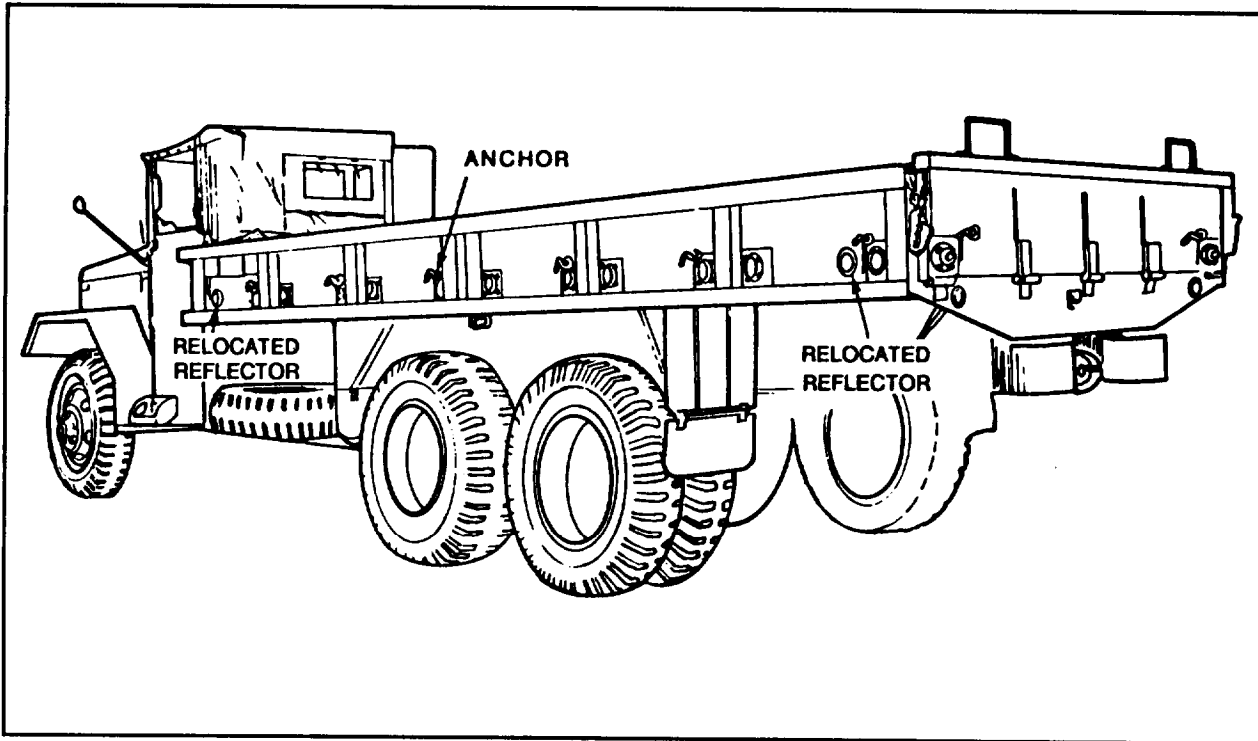
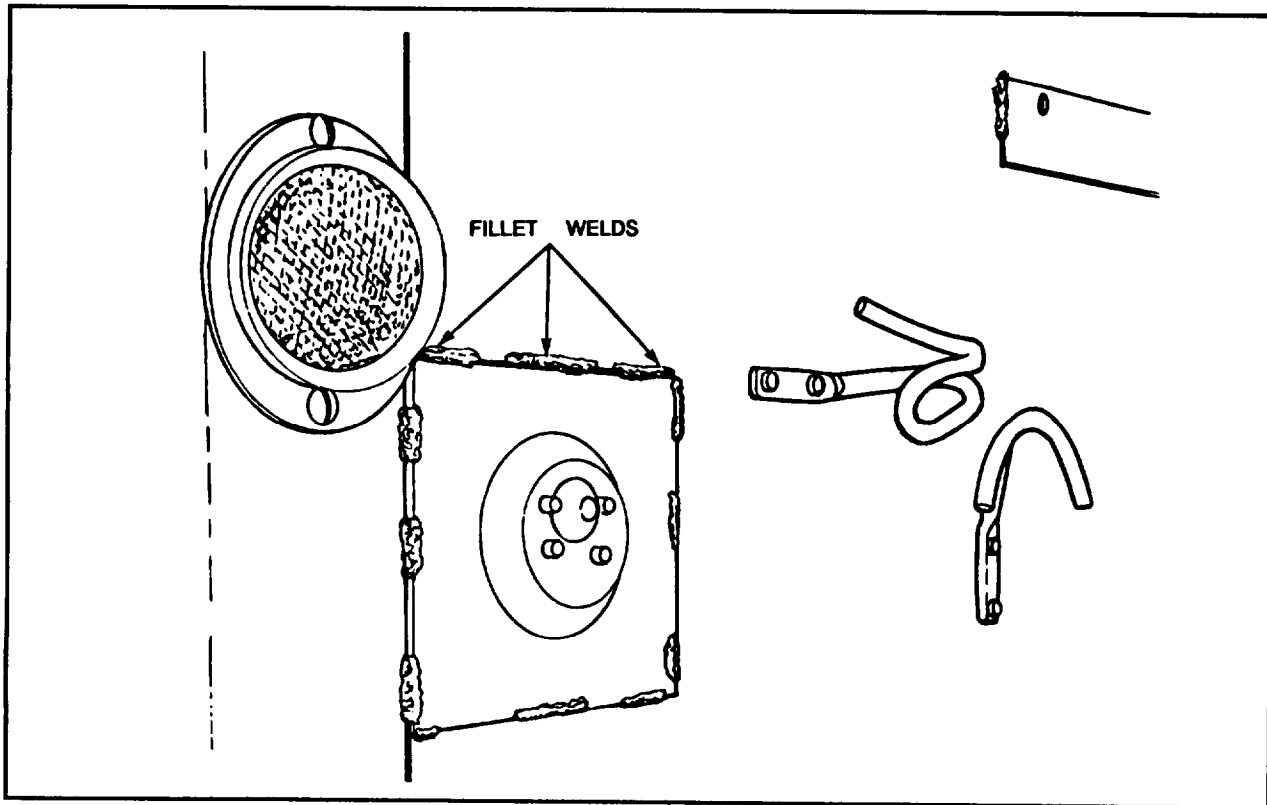

Figure 4. Location of anchors, reflectors, and hooks on left side and tailgate on M36, M36C, M36A1, M36A2, M36A2C trucks
Figure 5. Anchors installed in front panel of cargo body on M36, M36C, M36A1, M36A2, M36A2C trucks
(3) Cut holes matching the template. Trim rough edges and arc weld 20 anchors as shown in figure 4. For fillet welds, install hooks and reflectors, as in paragraph 4a, steps 9 through 13 (figure 5).